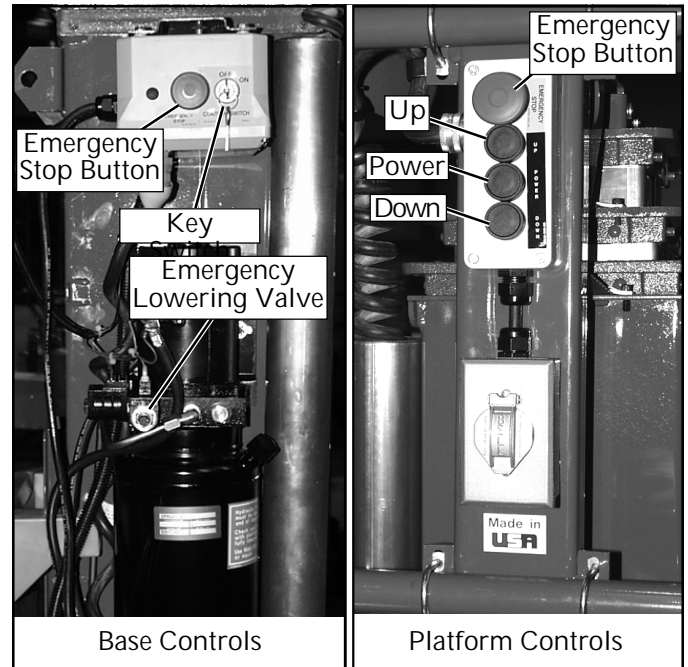

Figure 2: Controls
3. Turn Key to **ON**. Key Switch is located on the left side of the mast (Figure 2).
4. Pull out on Lower Emergency Stop Button, located on the left side of the mast (Figure 2), to turn switch ON. In the event of an emergency push the button in to cut power to all controls.
8. Pull out on Emergency Stop Button, located on platform control panel (Figure 2). In the event of an emergency push the button in to cut power to all controls.
9. Push both the middle and top buttons (POWER and UP), on the platform control panel (Figure 2), at the same time to elevate the platform. Release the buttons to stop.
Ask a person on the ground to open the Emergency Lowering Valve to lower the platform. This valve is located on the left side of the mast (Figure 2).